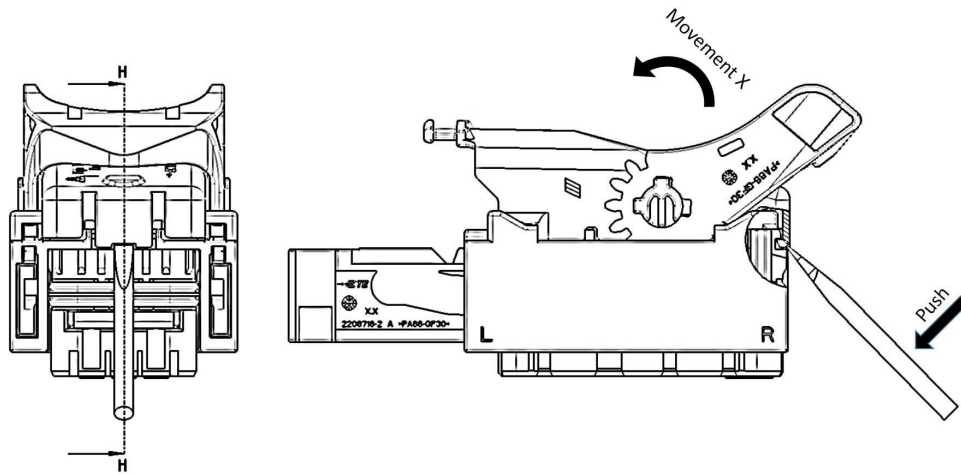

Figure 26
The Cover-Lever Assembly (5) must be unlocked with a screwdriver 1.8x0.3mm by levering the locking hook till the cover gets unlocked (as shown Figure 26) and then it must be moved along direction X from the housing.